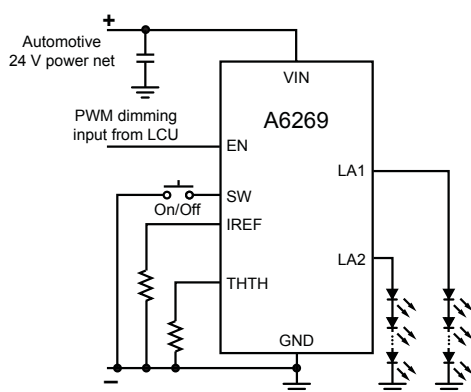

Figure 10. Typical applications using SW and EN together
**Operation with both EN and SW** In some applications it may be required to utilize the functionality of both the EN input and the SW input. For example in dome lighting (see figure 10), a manual switch may be used to toggle the light on or off. While